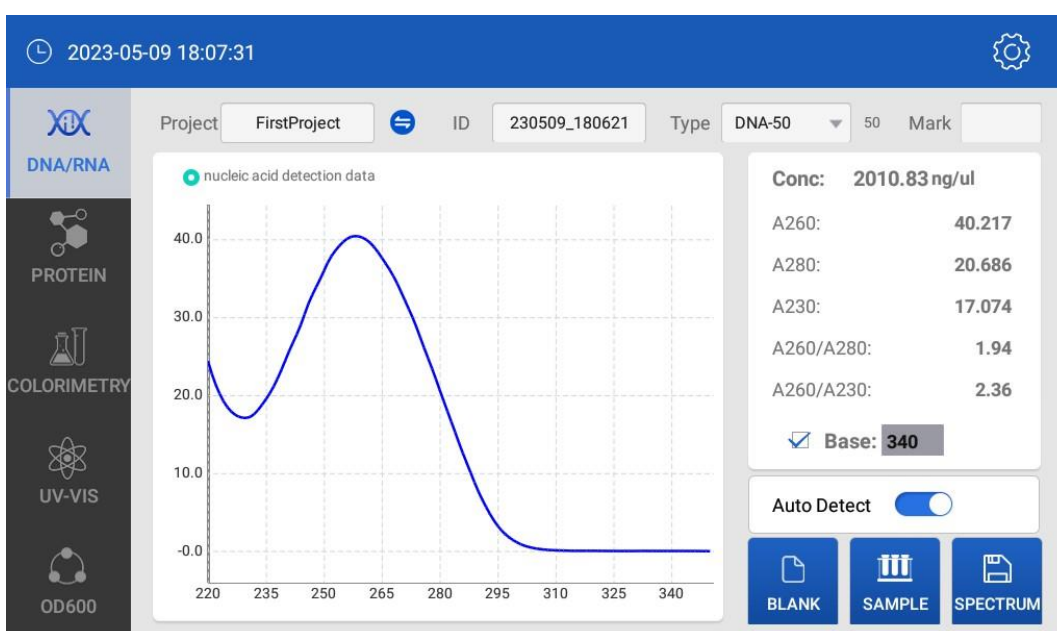

Fig 4.4 Measurement result
to measure. Fig 4.4 will show on the display after completing measurement,
- (3) from Fig 4.4, we can see the detection result by data as Fig 4.5